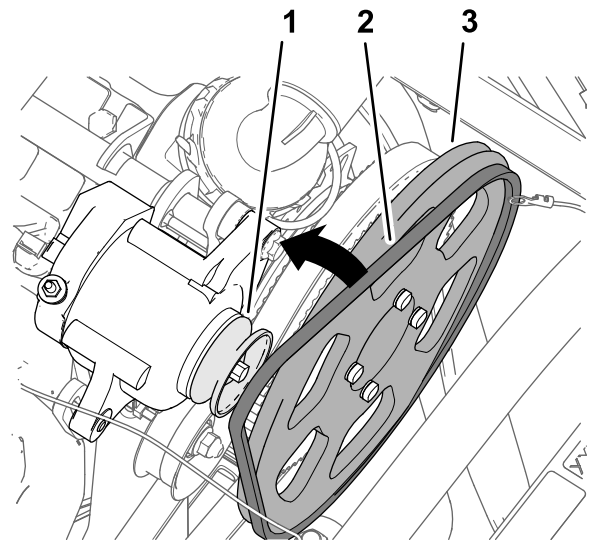

Figure 183
3. Assemble the V-belt over the drive pulley 279 mm (11 inch) and the pulley of the alternator (Figure 183).